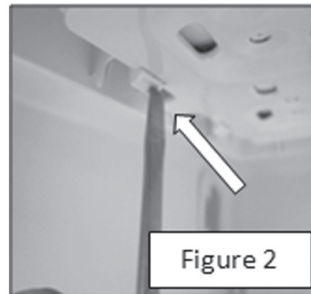

Figure 2
3. Release the 4 tabs holding the LED assembly in place, see figure 2.